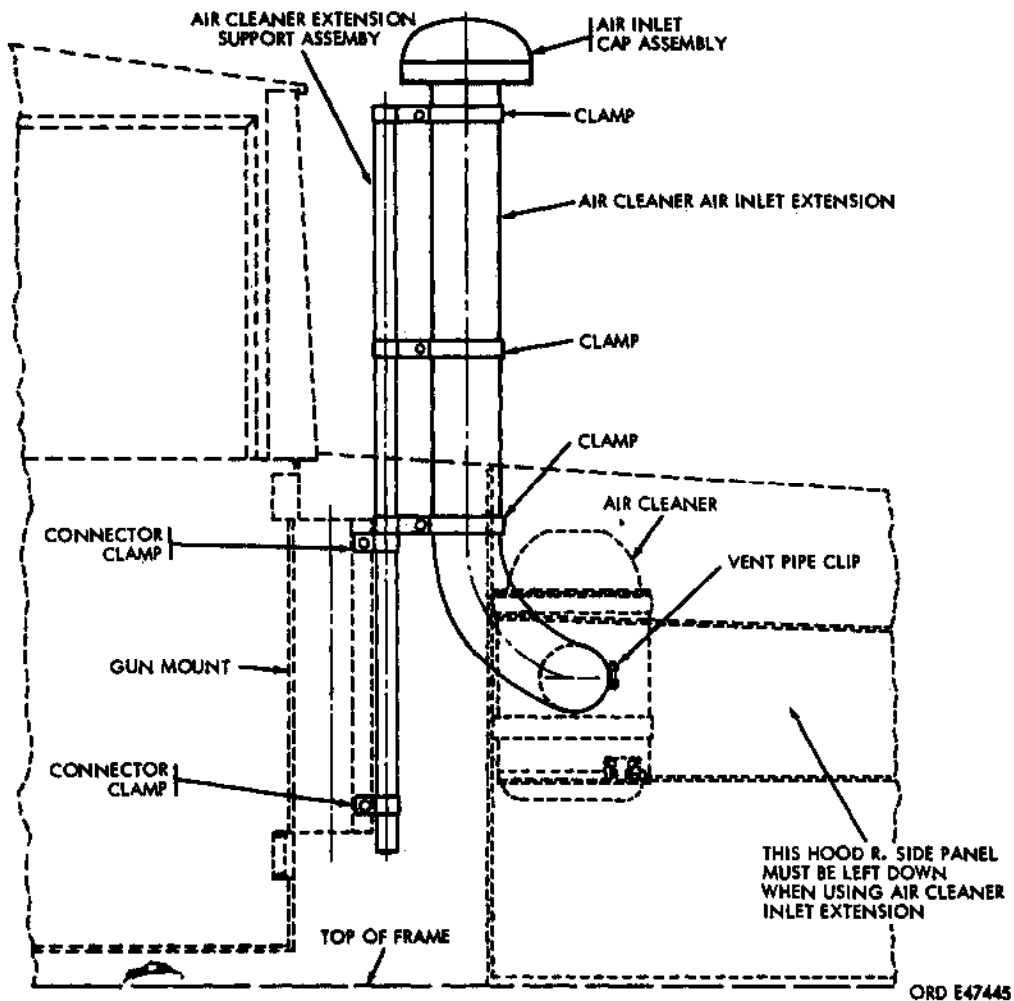

Figure 656. Air cleaner air inlet extension installed - gasoline engine wheeled vehicle
b. Gasoline Engine (Fig. 656).
- (1) Install air cleaner air inlet extension (fig. 656). Slide the three clamps on the air cleaner air inlet extension but do not tighten. Install lower end of extension on air cleaner inlet neck and secure with vent pipe clip.
- (2) Install bottom section of air cleaner extension support assembly to gun mount panel and the top section to the air inlet extension and secure the assembly using two connector clamps for the top as shown (fig. 656).
- (3) Install air inlet cap assembly on air cleaner extension assembly by tightening the cap on the extension assembly.